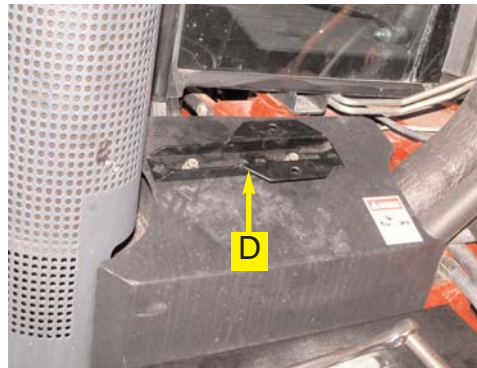

Figure 2b. Installed mounting bracket.
- b. Use the existing bolts to install the mounting bracket (D) to the tractor. (Figure 2b.)